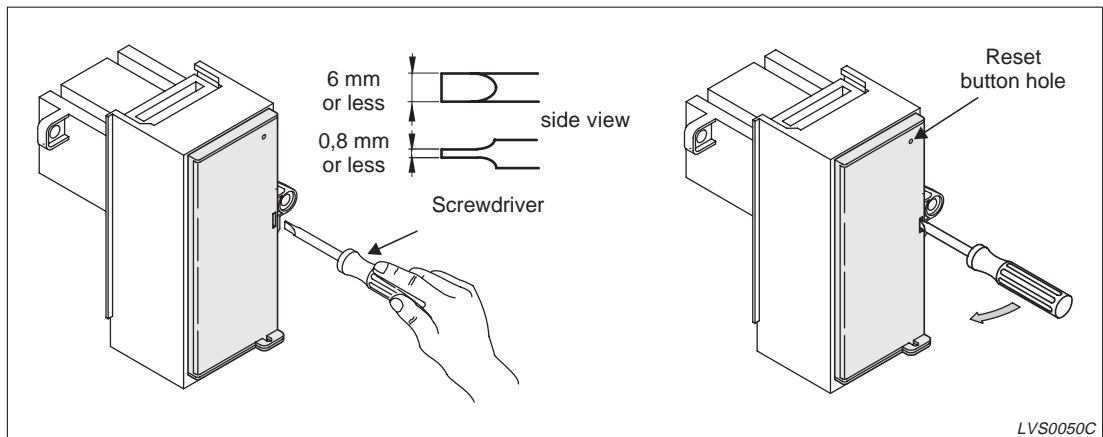
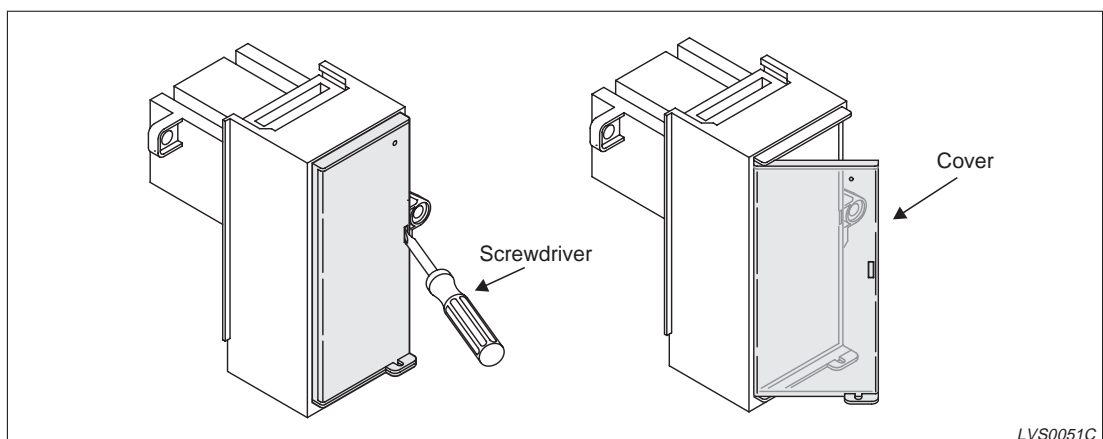

Fig. 3-1: How to open the relay cover (1)
Fig. 3-2: How to open the relay cover (2)
- ① Prepare a small flat-tipped screwdriver.
- ② Insert the flat-tipped screwdriver into the opening of the electronic trip relay cover. Then, lightly turn the screwdriver to the left as shown in fig. 3-1, and the relay cover will come open.
Turn the screwdriver in the direction of the arrow mark in order to open the relay cover (fig. 3-1 and fig. 3-2).